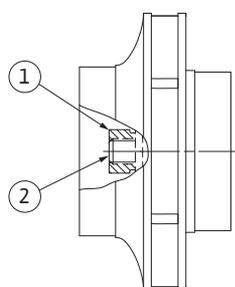

Fig. 52: Correct position of the impeller nut after the installation
29. Hold on to the shaft (see step 24) and tighten the impeller nut with the specified tightening torque (see list "Table 11: Screw tightening torques" on page 114). The nut (Fig. 52, Item 1) has to be about  $\pm 0.5$  mm flush with the end of the shaft (Fig. 52, Item 2). If this is not the case, release the nut and repeat steps 25 to 29.